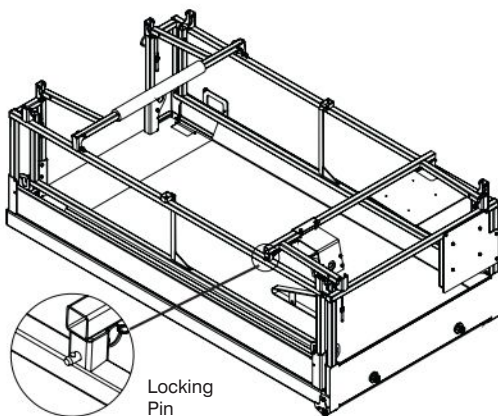

Figure 3-12c. All Guardrails Folded Down
Lock extension guardrail into place on the mounting post. Ensure that the detent ball of the pin is all the way through. (Refer to Figure 3-12c)
- Remove locking pin from mounting post and carefully raise extension guardrail up and lock into place with locking pins ensuring that the detent ball of each pin is all the way through (Refer to Figure 3-12c).